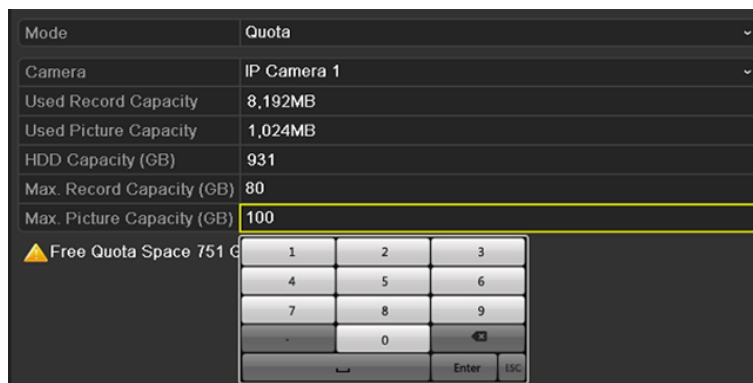

Figure 12-19 Configure Record/Picture Quota
Step 4 Enter the storage capacity in the text fields of **Max. Record Capacity (GB)** and **Max. Picture Capacity (GB)**, as shown in Figure 12-19.